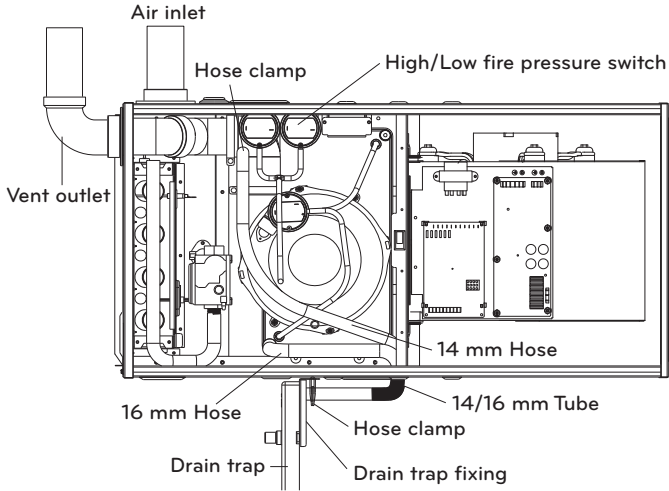
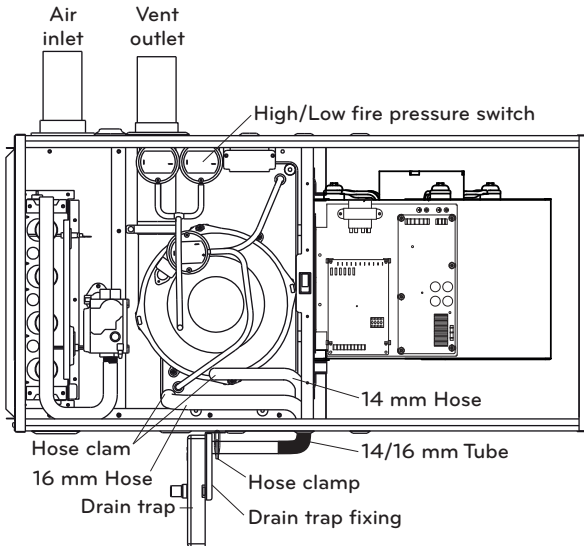
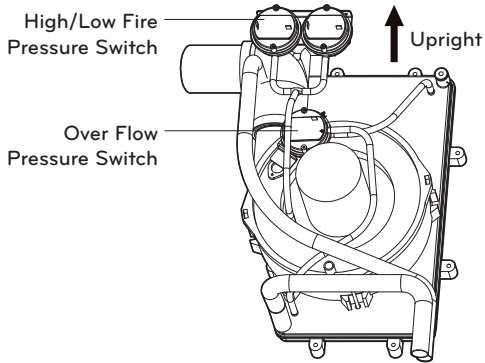

Fig. 6-10 Horizontal Left Side Installation, Vent Through Top Panel
Fig. 6-11 Horizontal Left Side Installation, Vent Through Side Panel
Fig. 6-12 Pressure Switch Position
For horizontal left installation (air discharge to the left), hoses of condensate overflow pressure switch need to be reroute. (see figure 6-10 & 6-11)
2. Air discharge to the left and vent through furnace top panel (see Fig.6-10 and Fig. 6-12)
3. Air discharge to the left and vent through furnace side panel (see Fig.6-11 and Fig.6-12)
Connecting incorrectly will result in failure to protect condensate overflow. (See Fig. 6-12)